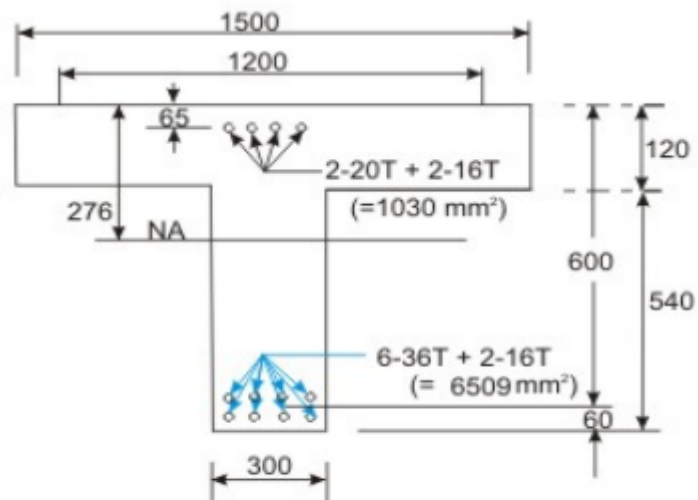

Fig. 5.11.6: Q. 1
Q.1: Determine the moment of resistance of the simply supported doubly reinforced flanged beam (isolated) of span 9 m as shown in Fig. 5.11.6. Assume M 30 concrete and Fe 500 steel.
3. With the aid of SP-16, determine separately the limiting moments of resistance and the limiting areas of steel of the simply supported isolated, singly reinforced and balanced flanged beam of Q.1 as shown in Fig. 5.11.6 if the span = 9 m. Use M 30 concrete and three grades of steel, Fe 250, Fe 415 and Fe 500, respectively. Compare the results obtained above with that of Q.1 of sec. 5.11.6, when balanced.